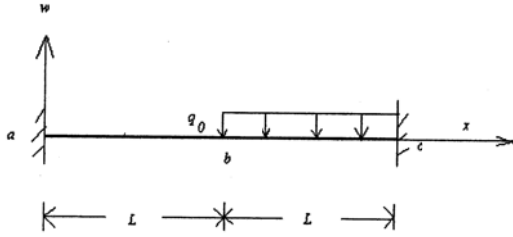

Fig. 2a
- (2) Consider a loaded Euler-Bernoulli beam structure as shown in Fig. 2a. Analyze this beam using two-beam-element model with uniform spacing. In particular, this analysis should give (a) The assembled stiffness matrix and force vector, (b) The specified global displacements and forces, and the equilibrium conditions, (c) The condensed matrix equations for the primary unknowns separately, (d) the solutions of unknown nodal displacements and rotations, and the reactions. (30%)